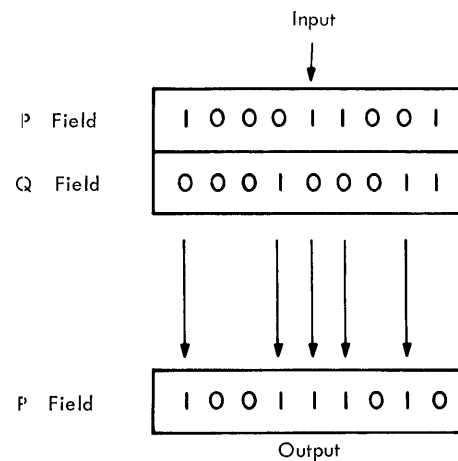

Figure 72. Exclusive OR Logic
*Description.* The operation of the Exclusive OR to Field instruction is similar to that of the OR to Field instruction. The only difference is that the octal data in the P and Q fields is exclusive ored - that is, the Exclusive OR logic provides an output bit if either one of the inputs contains a bit, but NOT if both inputs contain a bit, as illustrated in Figure 72.